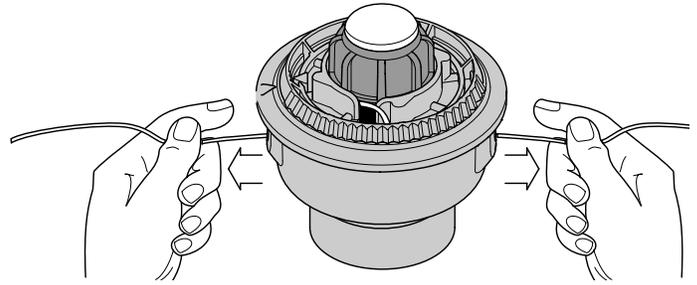

Fig. 13
- If winding the line becomes difficult or the line jams, pull the ends of the line from the spool (Fig. 13). Continue winding the inner reel counterclockwise.
- Hold the inner reel in place and install the bump knob, spring and foam seal. Press down and turn the bump knob clockwise. Grasp the ends and pull firmly to release the line from the holding slots in the inner reel (Fig. 13).
If the SpeedSpool® does not release line correctly, pull the ends of the line firmly from the spool (Fig. 13). If this does not release line, follow the **Cleaning the SpeedSpool®** instructions.